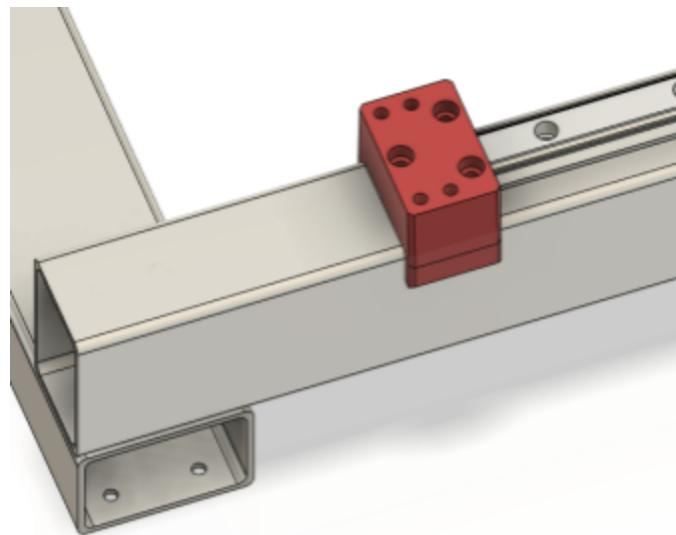

Figure 6.2
3. Ensure the mount is positioned correctly. The three counterbored holes should form an arrow pointing away from the HGR20 rail as shown in Figure 6.2.